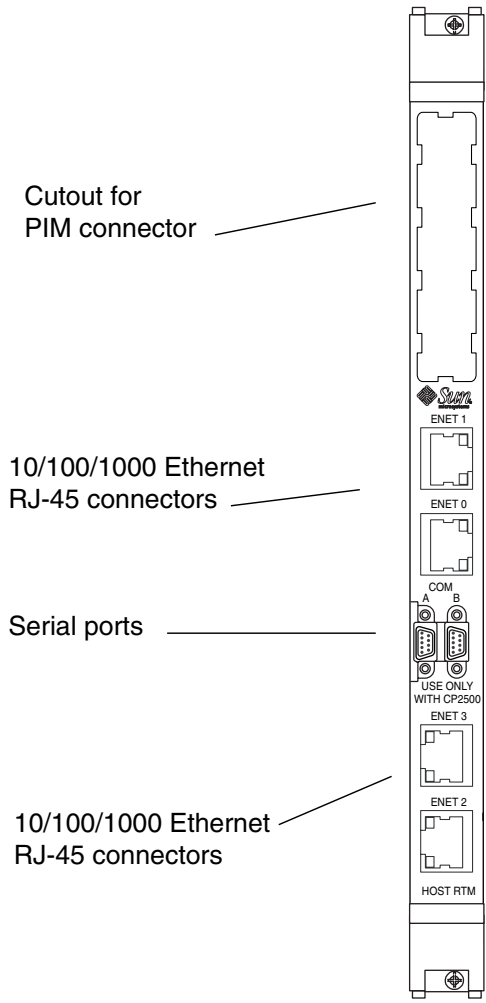

FIGURE 5-5 Supported Netra CP2500 Host RTM for a Netra CT Server
- Netra CP2500 host board and Netra CP2500 RTM-H (rear transition module-host). See FIGURE 5-5 for supported Netra CP2500 host RTM.